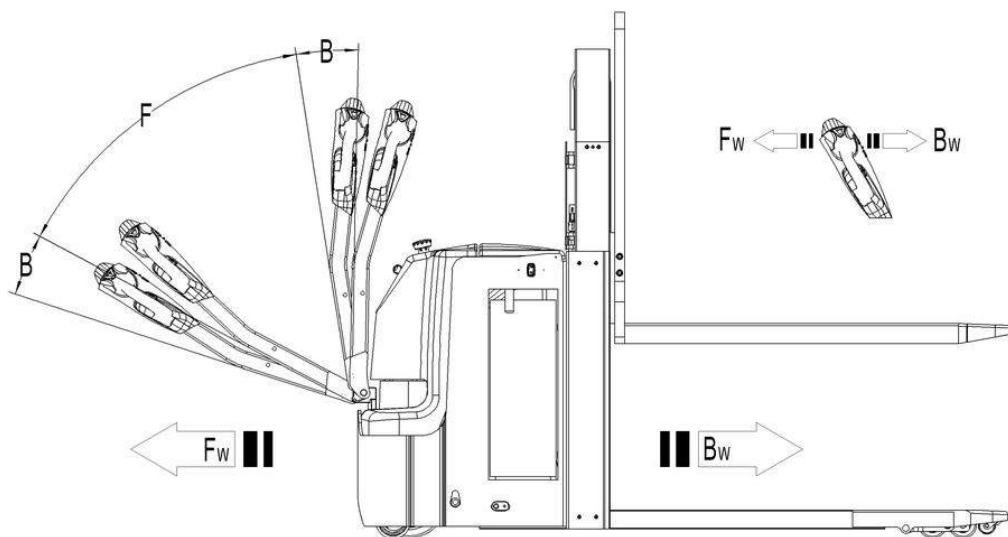

Fig. 10: Operating direction
After starting the truck by turning on the key switch (6), move the tiller to the operating zone ('F', fig.10).
Turn the accelerator button to the desired direction forward 'Fw.' or backwards 'Bw.' (fig. 10).